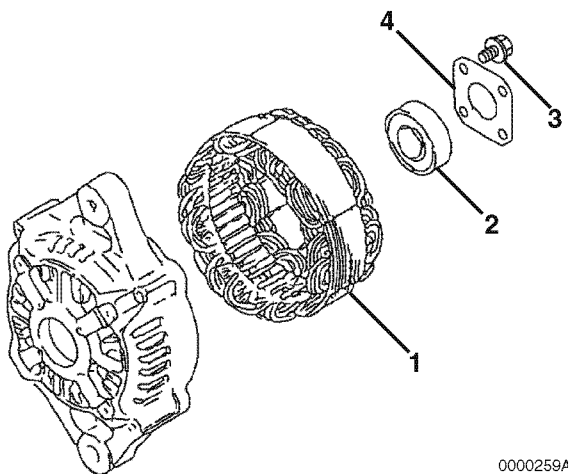

Figure 12-10
9. Remove the stator assembly **(Figure 12-10, (1))** from the front frame housing.
10. If it is necessary to replace the bearing **(Figure 12-10, (2))** in the front frame housing, remove the four bolts **(Figure 12-10, (3))** securing the plate **(Figure 12-10, (4))** to the front frame housing. Remove the plate. Use a puller to remove the bearing. Discard the bearing.